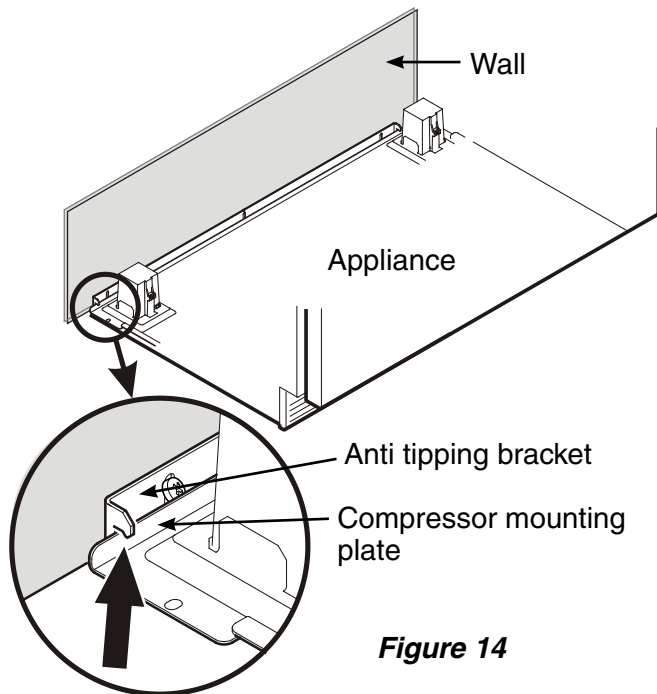

Figure 14
4. Push the appliance slowly to the back wall until the compressor mounting plate makes contact with the anti-tipping bracket (**Figure 14**).
To prevent the appliance from tipping forward the compressor mounting plate must have contact with the anti tipping bracket (Figure 14**).**